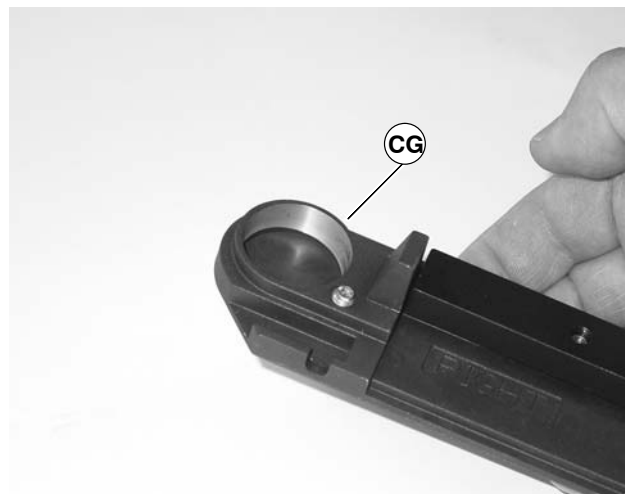

Figure 50
1. Inspect the head plates bearing seating surface (CG of Figure 50). If they are worn or damaged, replace the head. See “Service Parts” section, pages 33 to 39.